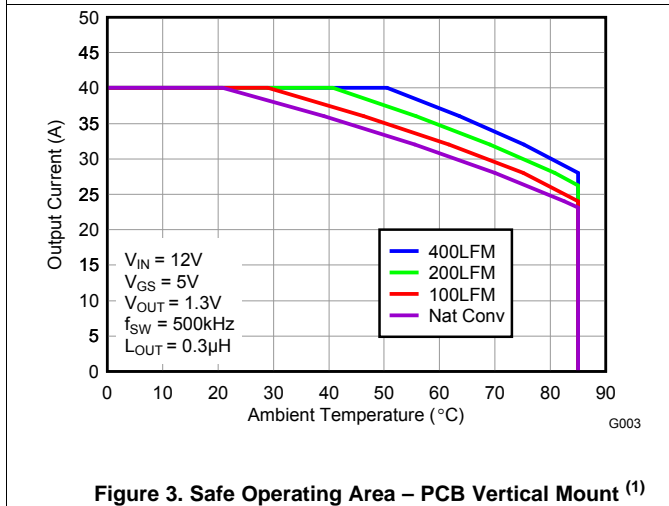
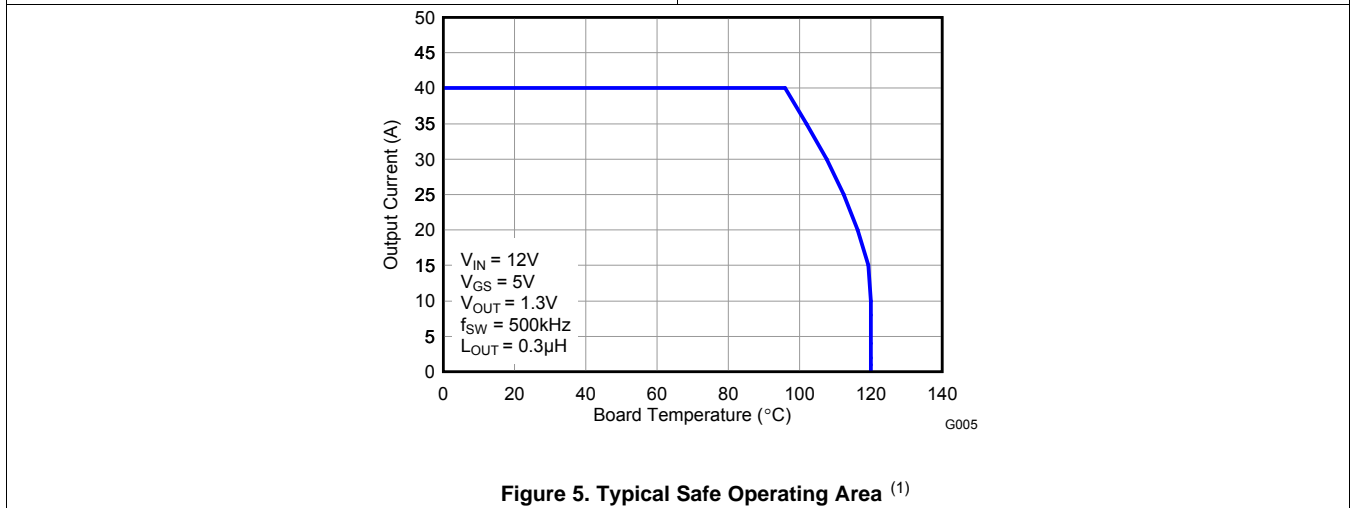

Figure 3. Safe Operating Area – PCB Vertical Mount (1)
Figure 5. Typical Safe Operating Area (1)
The SOA curves in the CSD86350Q5D data sheet provides guidance on the temperature boundaries within an operating system by incorporating the thermal resistance and system power loss. **Figure 3** to **Figure 5** outline the temperature and airflow conditions required for a given load current. The area under the curve dictates the safe operating area. All the curves are based on measurements made on a PCB design with dimensions of 4 in (W) × 3.5 in (L) × 0.062 in (T) and 6 copper layers of 1-oz copper thickness.